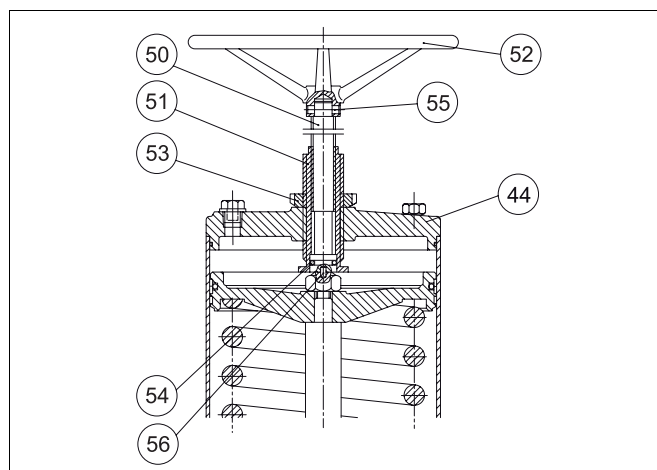

Fig. 22 B1JR actuator
The B1JR actuator is otherwise like the B1J except that it can be operated manually to bring the piston to the lower position against the spring in case there is no air supply. The B1J actuator can be changed into a B1JR by replacing the cylinder end (44) accordingly and adding parts (50 to 56), see Fig. 22
There is some air bleed through the spindle thread when the spindle (50) with the O-ring (54) is positioned inside the cylinder. I.e. when the valve has been manually operated to open position during compressed air loss and then the air pressure is restored. To stop the leakage operate the manual override to closed position. See Fig. 22
If air escapes between the spindle (50) and spindle nut (51), check the O-ring (54) and replace it if necessary. Also check the condition of the cylindrical roller (56). See Fig. 22. Other maintenance as described for the B1J actuator in Section 4.2.
Parts list for Fig. 22: